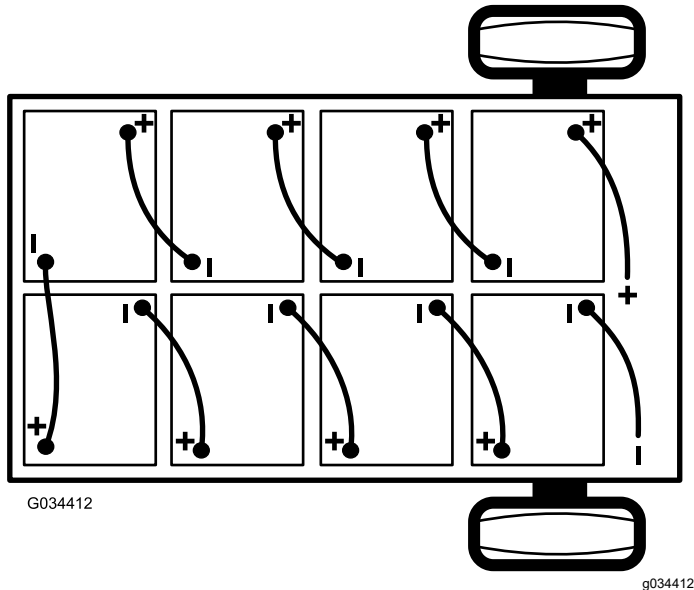

Figure 42
2. Disconnect the main negative-battery cable (black) that connects the bank of batteries to the ground point of the machine (Figure 42).
2. Connect the main positive-battery cable (red) between the bank of batteries and the machine (Figure 42).
3. Connect the main negative-battery cable (black) between the bank of batteries and the machine (Figure 42).
**Note:** Pay attention to the battery polarity when installing the new batteries (Figure 42).
6. Connect the batteries together as shown in Figure 42 with the battery-interconnect cables that you removed in step 1.